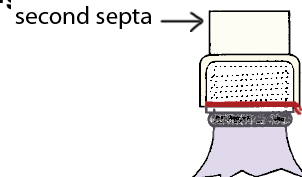

Fig. 4B For long-term storage, use a second septa
- For extra protection a second same-sized septa (sans holes) can be placed over the first (Fig. 4B).